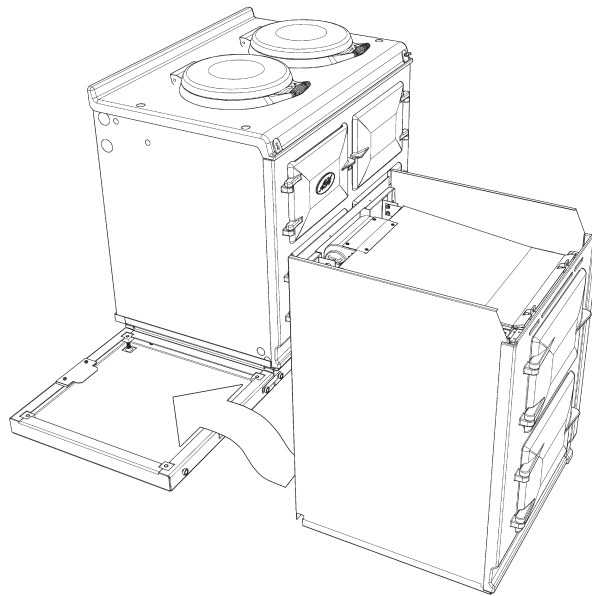

Fig. 10.1
5. Slide Module and plinth until rear tongue bracket engages fully into rear of base slot. (See **Fig. 10.1**). Ensure the appliance is aligned squarely with the plinth then proceed to engage the front tongue bracket into the slot on the underside of the base plate. Once satisfied that the front tongue bracket is engaged fully lock into place by tightening the two M6 screws fully.